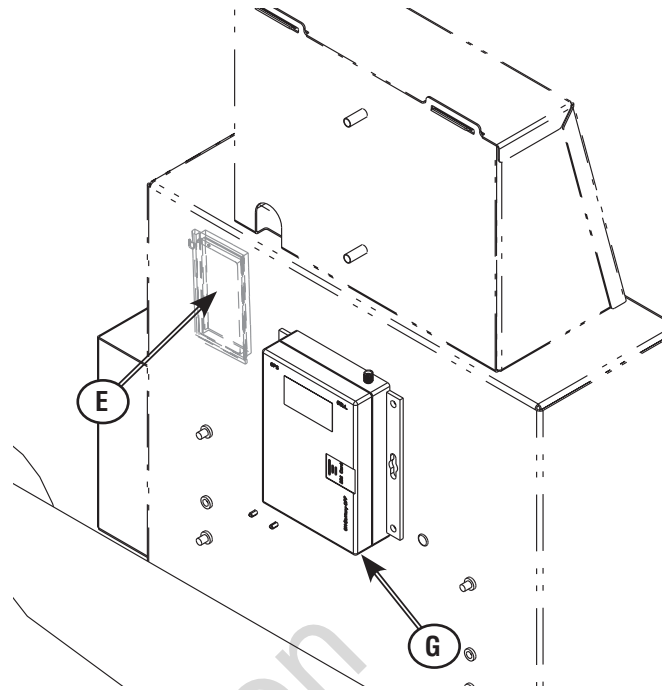

Figure 17
**\* For liquid cooled horizontal standby generators refer to figure 17 on page 10**